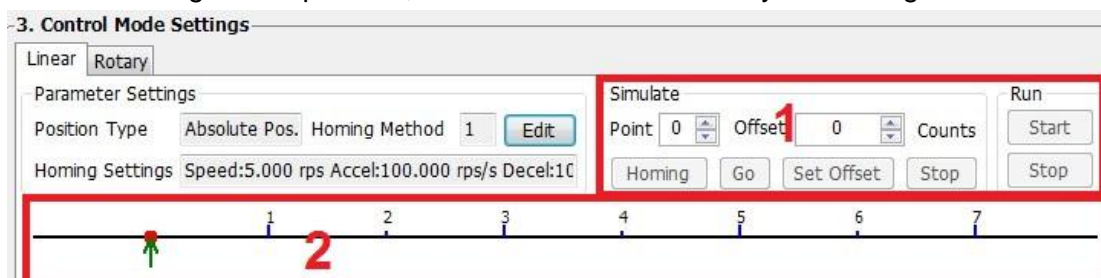

Figure 14.7 Linear motion Simulate
Go: Set the position point by changing the value in point box, and click 'go' button to start the motion. In Figure 14.7 Linear motion Simulate, green arrow in box ② shows the load position in real time.